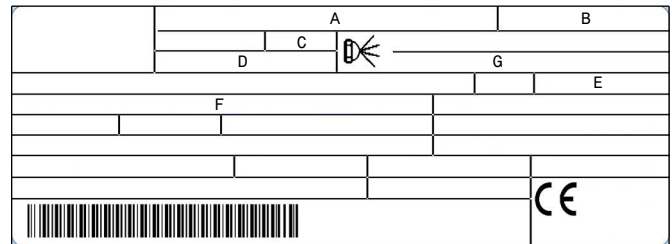

Fig. 5
- the model (A)(Fig. 5) and type of burner (B);
- the year of manufacture, in cryptographic form (C);
- the serial number (D);
- the data for electrical supply and the protection level (E);
- the absorbed electrical power (F);
- the types of fuel used and the relative supply pressures (G);
- the data of the burner's minimum and maximum output possibilities (H) (see Firing rate).